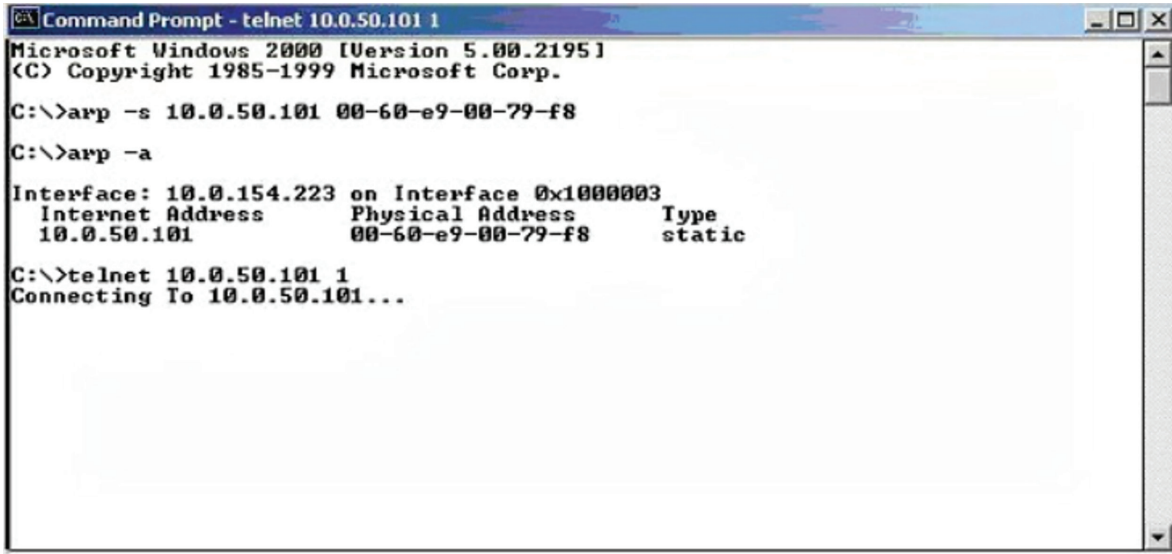

Figure 3.27. Assigning a new IP address by ARP command
2. Change to new IP via telnet port 1 (see Figure 3.27).